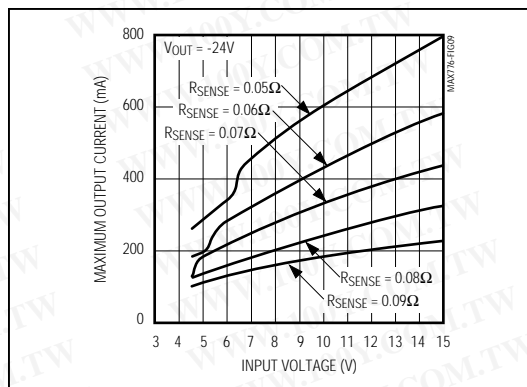

Figure 9. MAX774/MAX775/MAX776 Maximum Output Current vs. Input Voltage ( $V_{OUT} = -24V$ )
- Next, referring to Figure 9, find the curve with the lowest current limit whose output current (with the lowest input voltage) meets your requirements.
The  $R_{SENSE} = 80m\Omega$  (shown in Figure 9) shows only approximately 125mA of output current with a 4V input, so we look next at the  $R_{SENSE} = 70m\Omega$  line. It shows  $I_{OUT} >150mA$  for  $V_+ = 4V$  and  $V_{OUT} = -24V$ . The current limit will be  $0.210V / 0.070\Omega = 3A$ . These curves take into account worst-case inductor ( $\pm 10\%$ ) and current-sense trip levels, but not sense-resistor tolerance. The switch on resistance is  $70m\Omega$ .